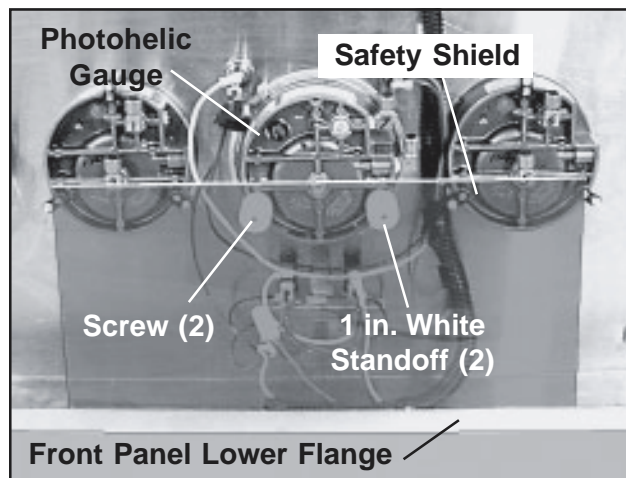

Figure 61. Safety Shield
3. With a small flat-blade screwdriver, remove the two screws that hold the safety shield to the rear of the photohelic gauge (Figure 61) and remove the safety shield and standoffs.
1. Slide the lower edge of the shield inside the lower flange of the front panel (Figure 61).
4. With a small flat-blade screwdriver, remove the two screws that hold the acrylic safety shield to the rear of the photohelic gauge (Figure 61) and remove the shield and standoffs.
3. With a small flat-blade screwdriver, remove the two screws that hold the acrylic safety shield to the rear of the photohelic gauge (Figure 61) and remove the shield and standoffs.
3. Slide the lower edge of the safety shield inside the lower flange of the front panel (Figure 61).